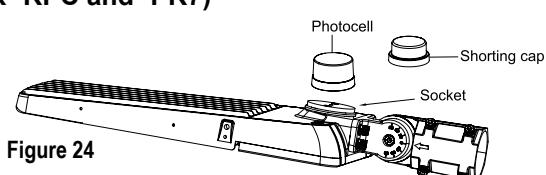

Figure 24
1. For models with either a 3-pin or 7-pin NEMA twist-lock receptacle installed, either a shorting cap or sensor (such as a photocell) needs to be installed on the receptacle (see Fig. 24)